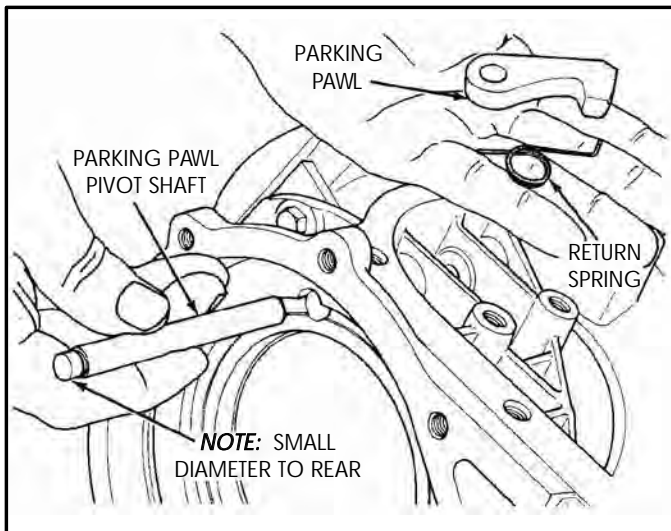

Figure 201
17. Install the parking pawl, return spring and the parking pawl pivot shaft **before** installing the transfer shaft gear, as shown in Figure 201.